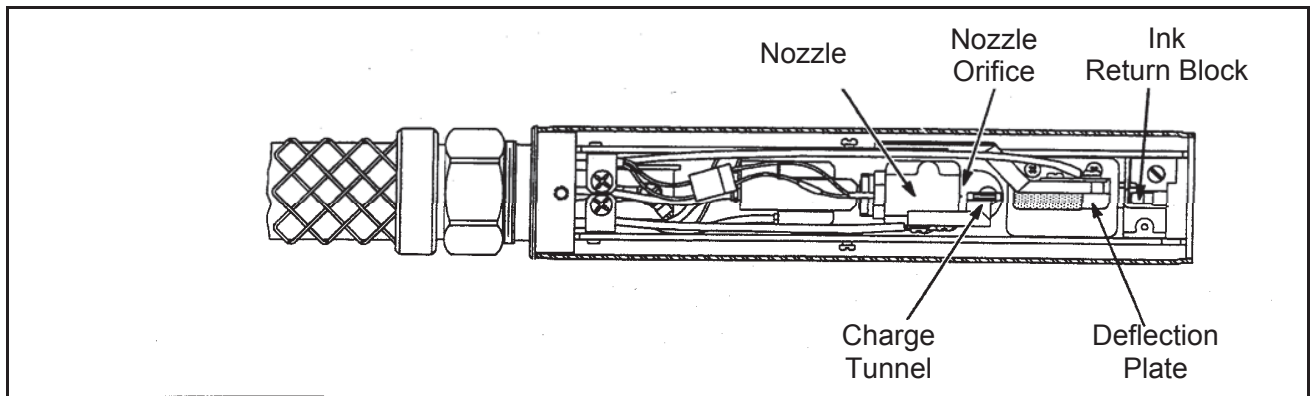

Figure 6-6. Printhead Component Identification
5. Visually inspect the printhead assembly. Look for foreign particles and ink that typically accumulate in the nozzle orifice (located on the front of the nozzle), charge tunnel, deflection plate and ink return. Refer to Figure 6-6 for the location of each component.